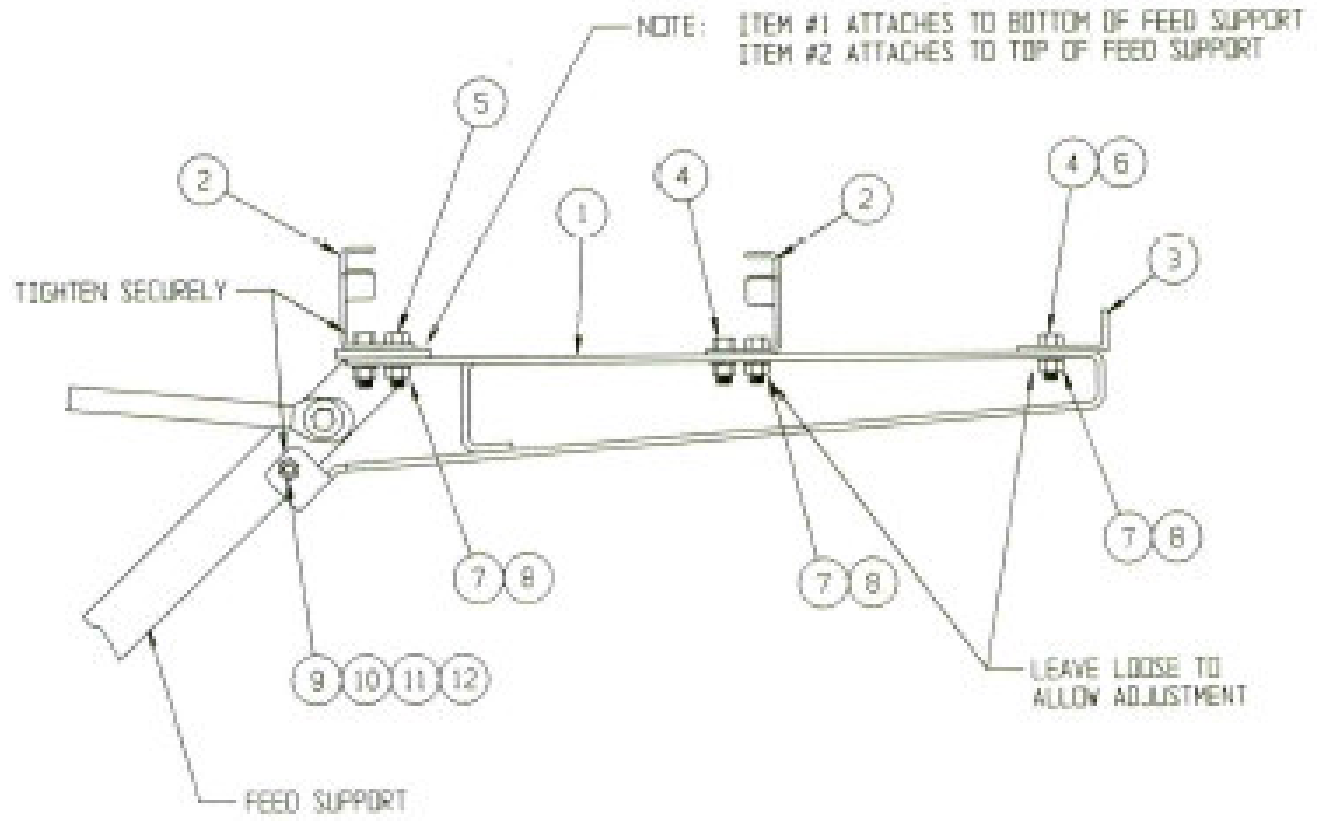
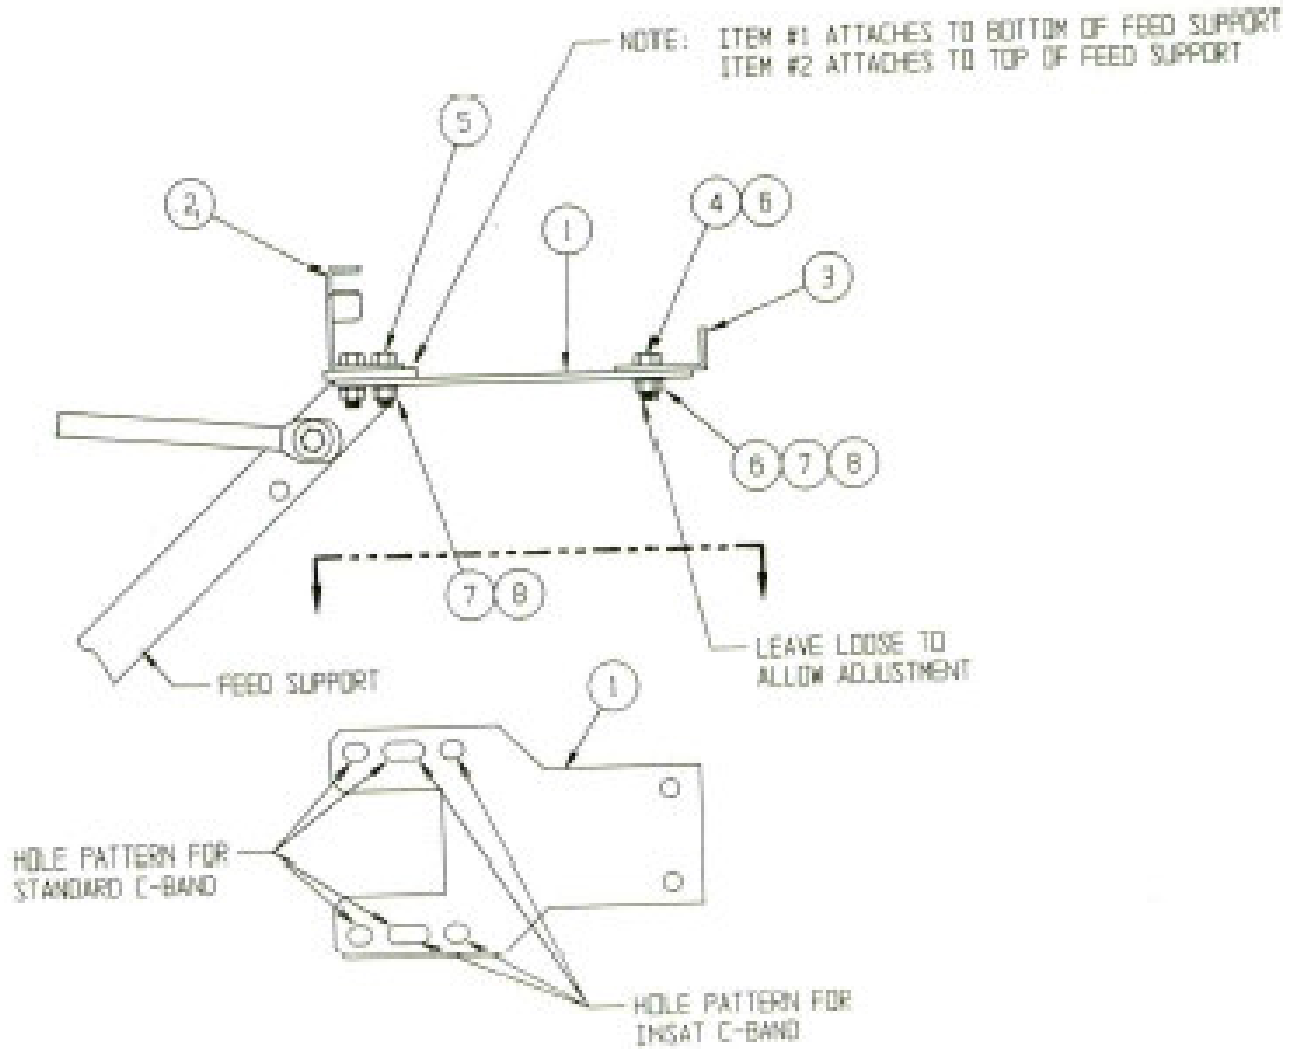

FIGURE 1
FIGURE 3
STEP 1: Attach the bottom feed mounting bracket (item# 2) and ODU support bracket (item 1) to the feed support arm with [4] 3/8-16 x 1.25" bolts, [4] lockwashers, and [4] 3/8-16 hex nuts (items 5,7,8), as shown in figure 1. Attach lower end of bracket to feed support with 5/16-18 x 3.25" bolt, [2] flatwashers, lockwashers, and 5/16-18 hex nut (items 9,10,11,12). Tighten securely.
STEP 3: Attach the second bottom feed mounting bracket (item 2) to the ODU support bracket with [4] 3/8-16 x 1.00" bolts, [4] lock washers, and [4] 3/8-16 hex nuts (items 7,8,13) in the location and orientation shown. Leave loose to allow for adjustment.
STEP 1: Attach the bottom feed mounting bracket (item #2) and ODU support plate (item 1) to the feed support arm with [4] 3/8-16 x 1.25" bolts, [4] lockwashers, and [4] 3/8-16 hex nuts (item# 5,7,8), as shown in figure 1. Tighten securely. ***NOTE: For Insat installations, use the back set of holes and for standard c-band , use the front set as shown in figure 3.***